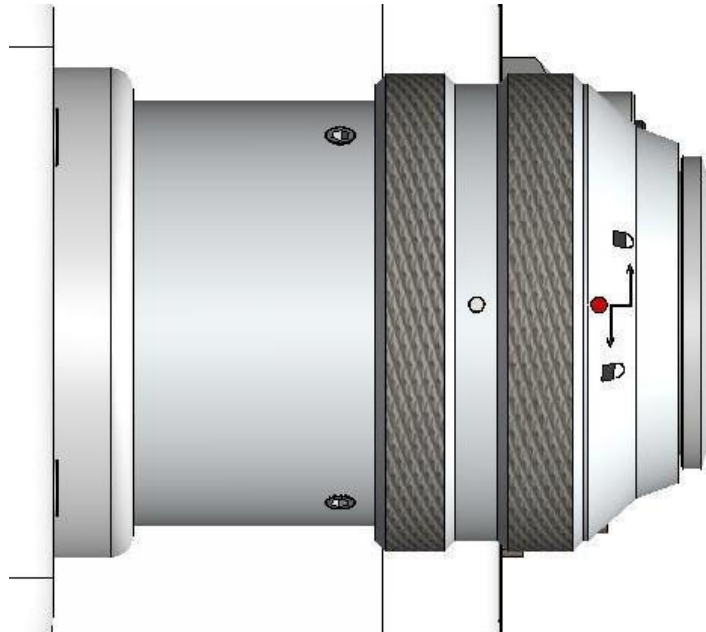

Figure 2.4
③ Turn the QBH connector into the open state, that is, turn it to the limit position counterclockwise (a "thud" sound can be heard). Do not twist with great force, otherwise the internal structure of the QBH may be damaged, as shown in Figure 2.4: